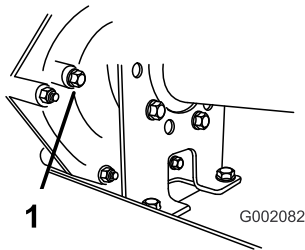

Figure 43
2. Remove the bolt from the level-indicating hole (Figure 43).